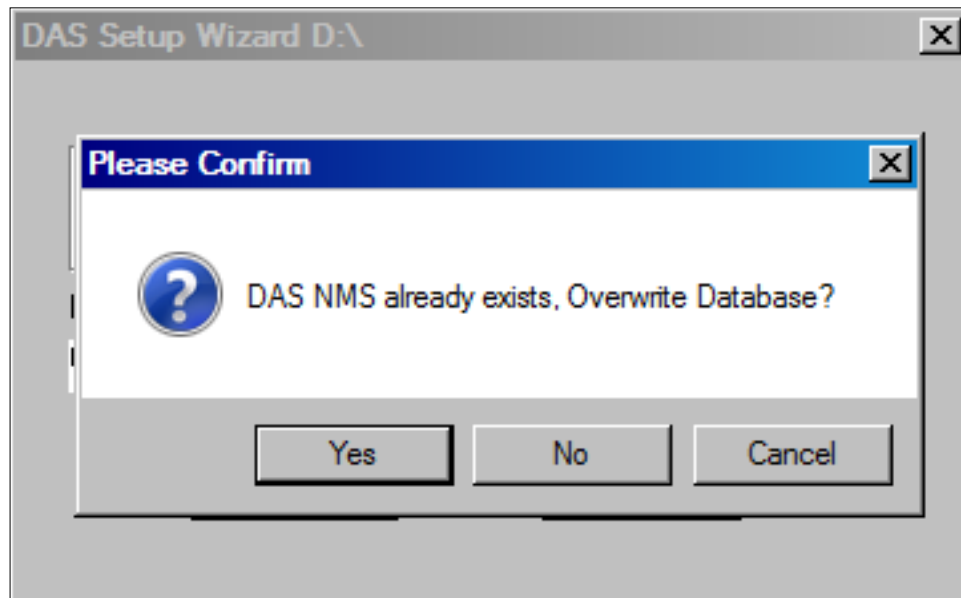

Figure 4-48. Replace NMS File
4. The CD will begin the install wizard and ask if the user would like to overwrite the older NMS version, **Figure 4-48**.